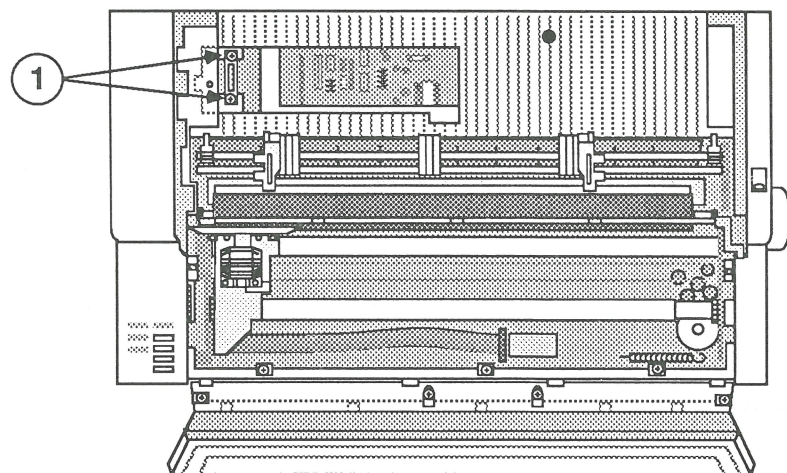

FIGURE 10
3. Remove the two Phillips screws securing the option card cable to the main cover (Figure 10, #1) and remove the cable.